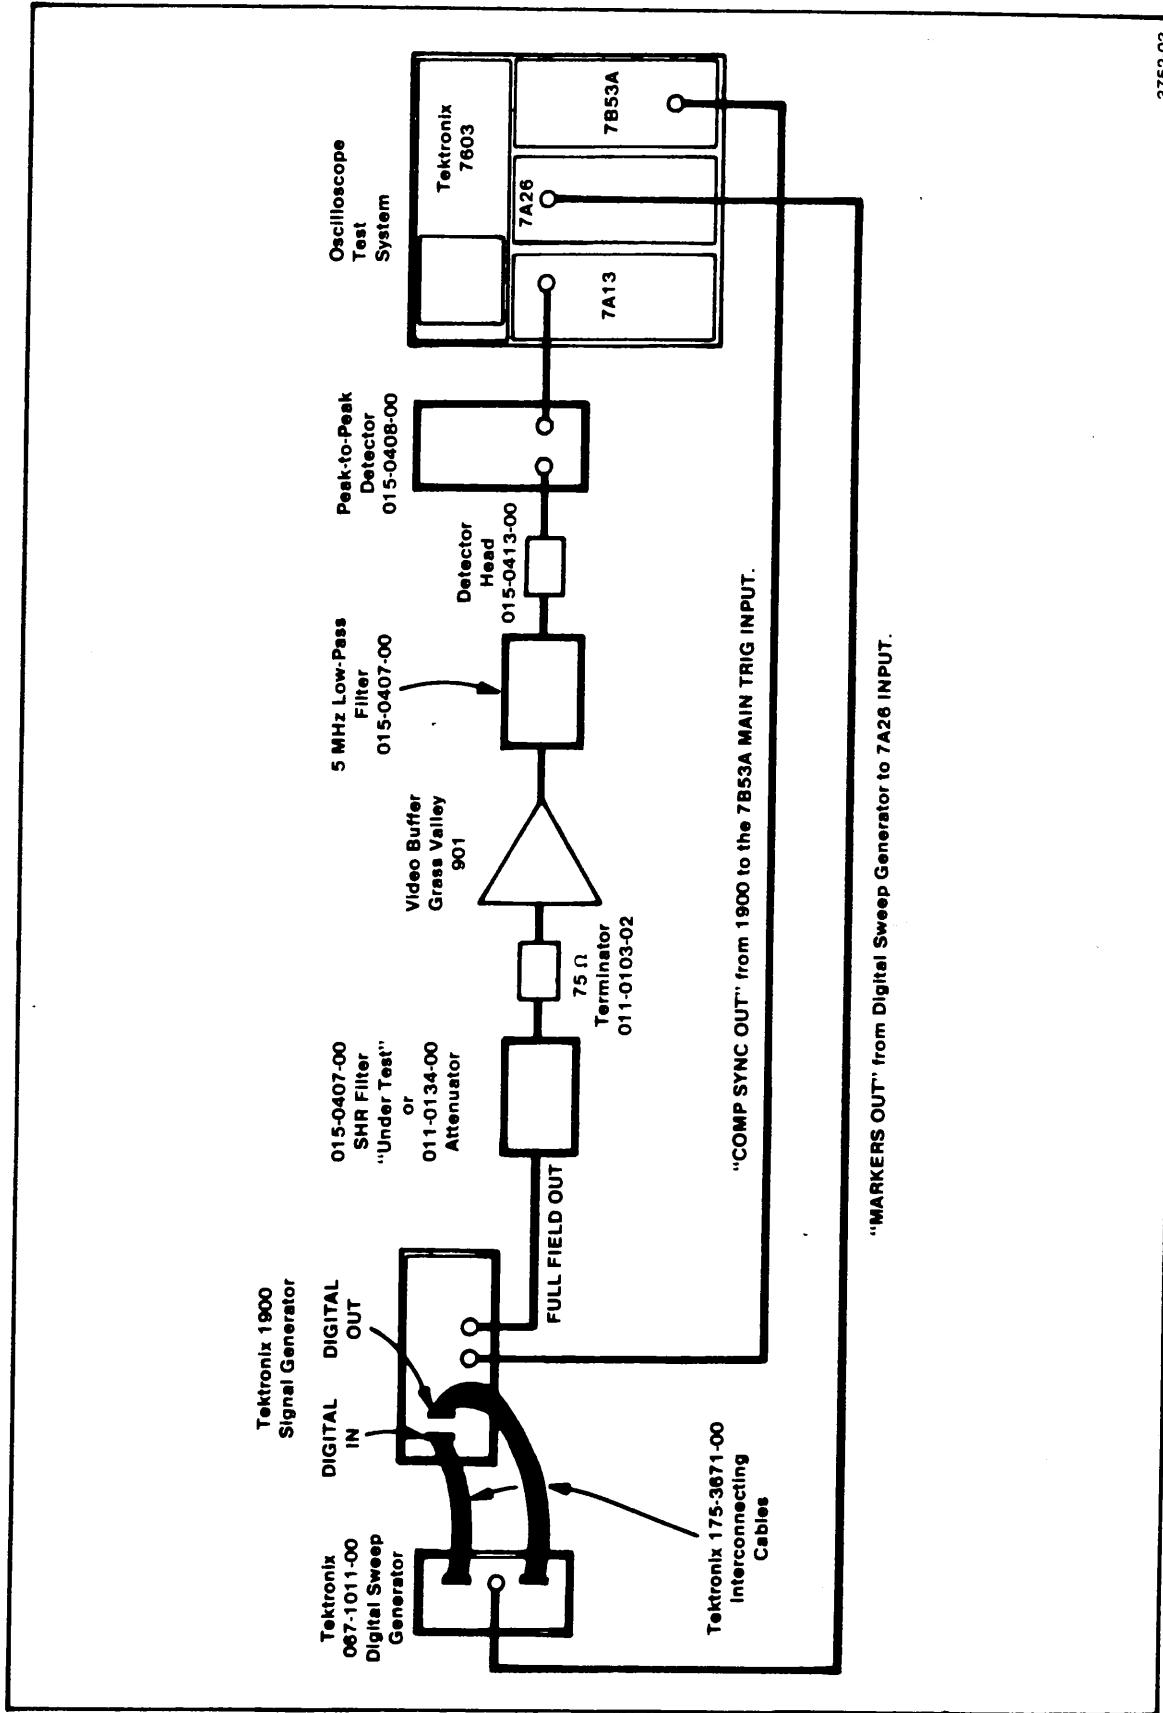
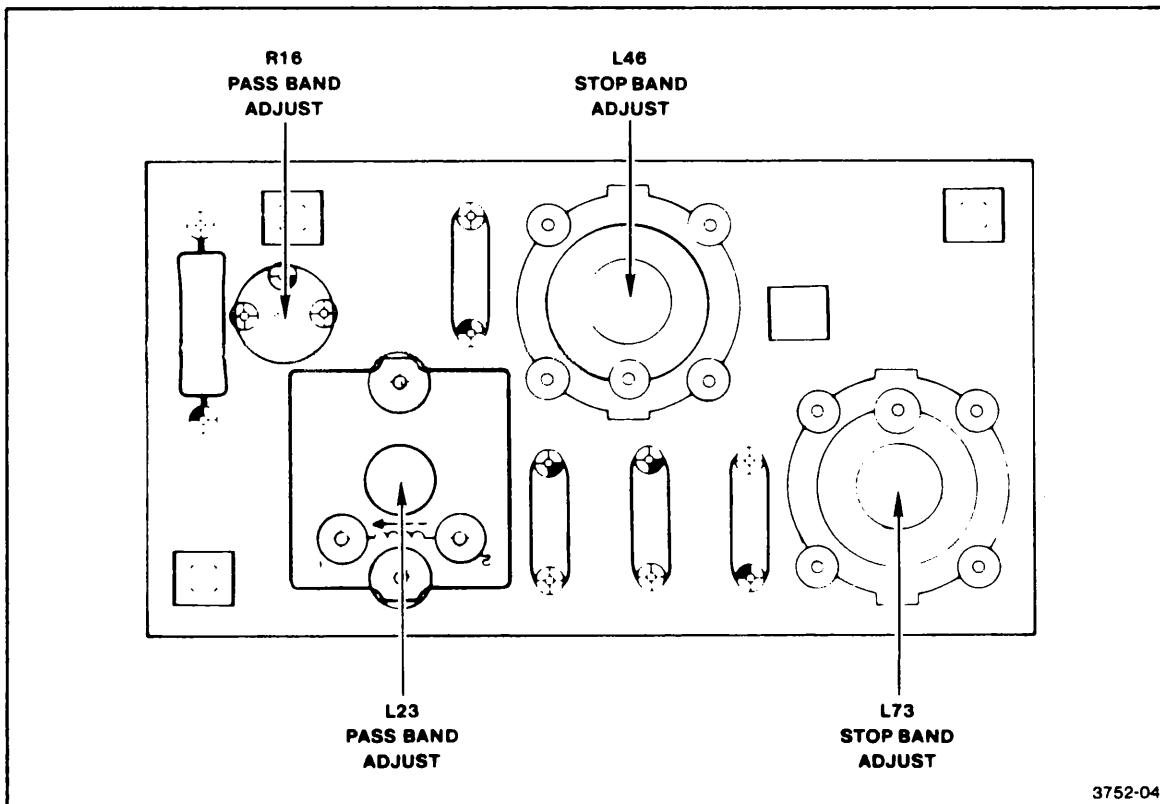

Figure 3 . Passband test setup for SHR Filter. Use short 75Ω interconnecting cables when needed to avoid signal degradation.
Figure 4. Adjustment Locations.
4. Using the equipment listed in Table 4, or equivalent, connect the test setup illustrated in Figure 3. Make sure that all connections are electrically stable and wherever possible use 'short' interconnecting cables to reduce signal loss.
4. Using the equipment listed in Table 4, or equivalent, connect the test equipment setup shown in Figure 3. Make sure all connections are electrically stable and wherever possible use 'short' interconnecting cables to reduce signal loss. Remove the four screws retaining the lower (unlabeled) half of the filter case (see Figure 4) and pull off the half case.